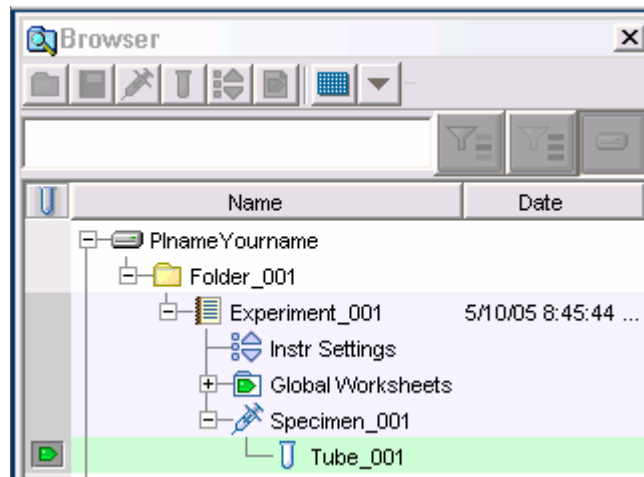

Figure 1
- See **Figure 1** for an example of how the Browser window should be set up.